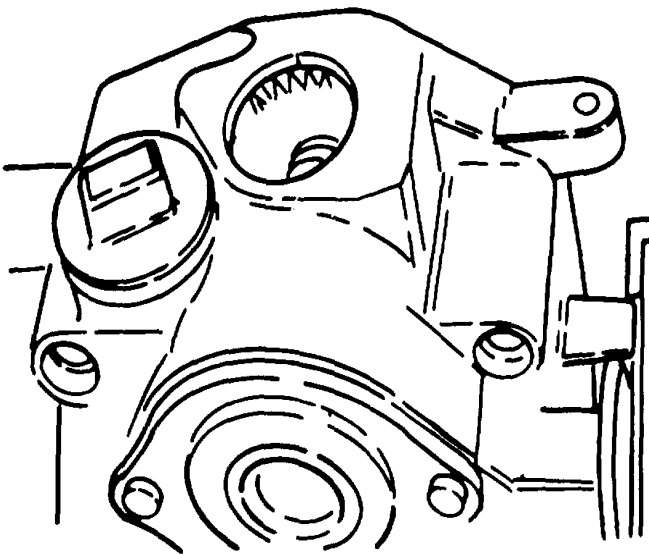

Figure A-50. Moving the Timing Mark
- b Move the timing mark on the cam gear exactly 3 teeth to the left. (Figure A-50).